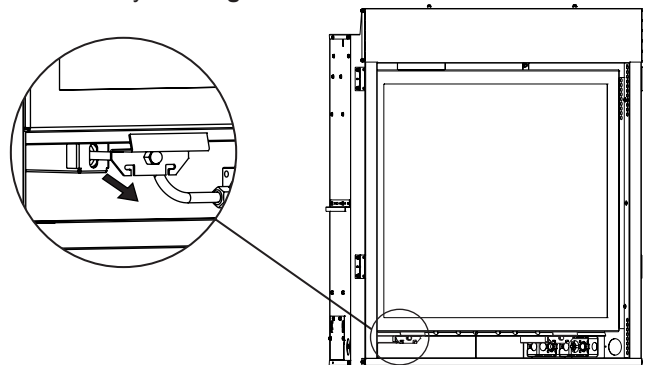

Figure 5
2. Pull out to release both latches at bottom of firebox assembly. **See Figure 5.**
25. Reinstall the glass frame removed in steps 2 and 3. **See Figures 5 & 6.**